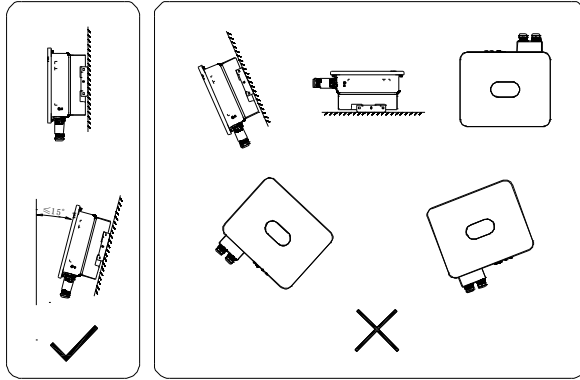

Fig. 4.6 Installation Location of Inverter
(4) The mounting surface should be upright (see Fig. 4.6). Install the inverter vertically or at a backward tilt of $\leq 15^\circ$ so as to facilitate heat radiation. Forward tilt, horizontal installation, upside-down installation, backward tilt of $> 15^\circ$ and sideways tilt are not allowed.